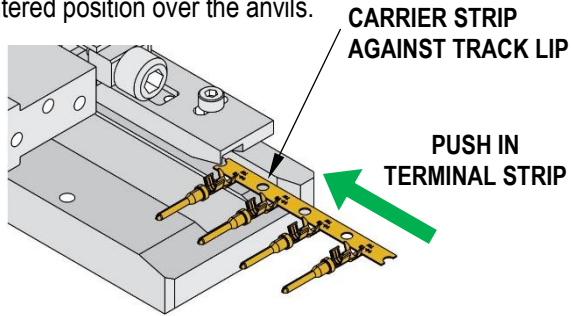

Figure 4.5.2
4. Align the terminal carrier against the lip in the track and push the terminal strip in until the first terminal is approximately centered above the crimp anvils. See Figures 4.5.2 and 4.5.3.